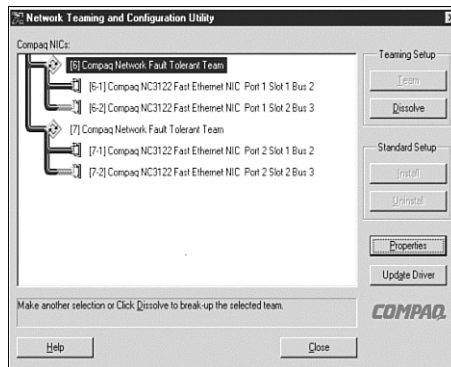

FIGURE 10.7 A unambiguous graphical user interface can help clear up otherwise complicated multi-NIC teaming configurations.
- Finally, if multiple NIC teams are configured (for example, in the case of SAP Application servers, where redundant connections are preferred to both the database server and the public network or Internet/Web intranet layer), it is important to ensure that the MAC address of the first team represents the primary address of the server. The primary address of the server thus maps back to its name on the public network. This sounds a bit complicated, but hopefully makes sense in Figure 10.7. Here, Network Fault Tolerant Team #6 represents the public team. Further, the MAC address of NIC #1 of this team is the MAC address “seen” by other servers. In this way, both name resolution and failover work as expected.